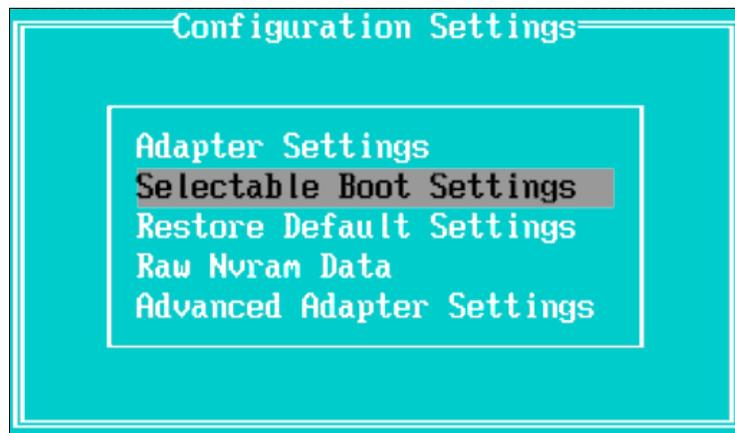

Figure 10-27 Accessing selectable boot settings
7. Press Esc to return to the Configuration Settings screen. Scroll to **Selectable Boot Settings** and press Enter, as shown in Figure 10-27.